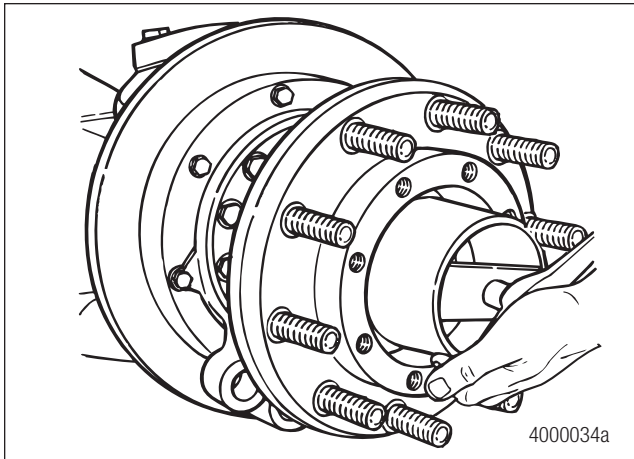

Figure 8.27
1. Install the adjusting nut. Use a torque wrench to tighten the adjusting nut to 100 lb-ft (136 Nm). Figure 8.27.